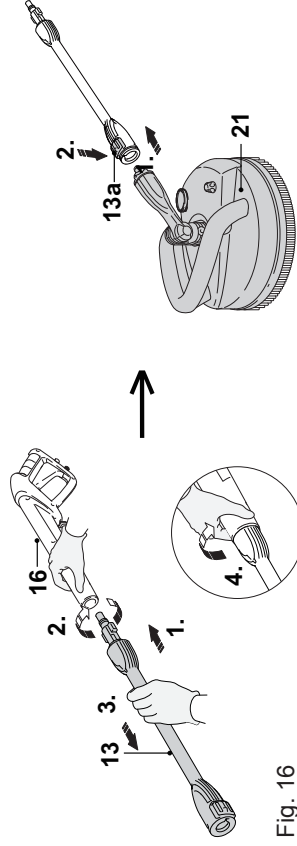

Fig. 16
1. Always attach the extension lance (13) when using the patio cleaner (21) (Fig. 16). Then press the unlock button (13a) and attach the patio cleaner (21) to the extension lance (13). Release the button (13a) to secure the patio in place (Fig. 16). Check if the patio (21) is attached properly by pulling on it. It should not pull out.